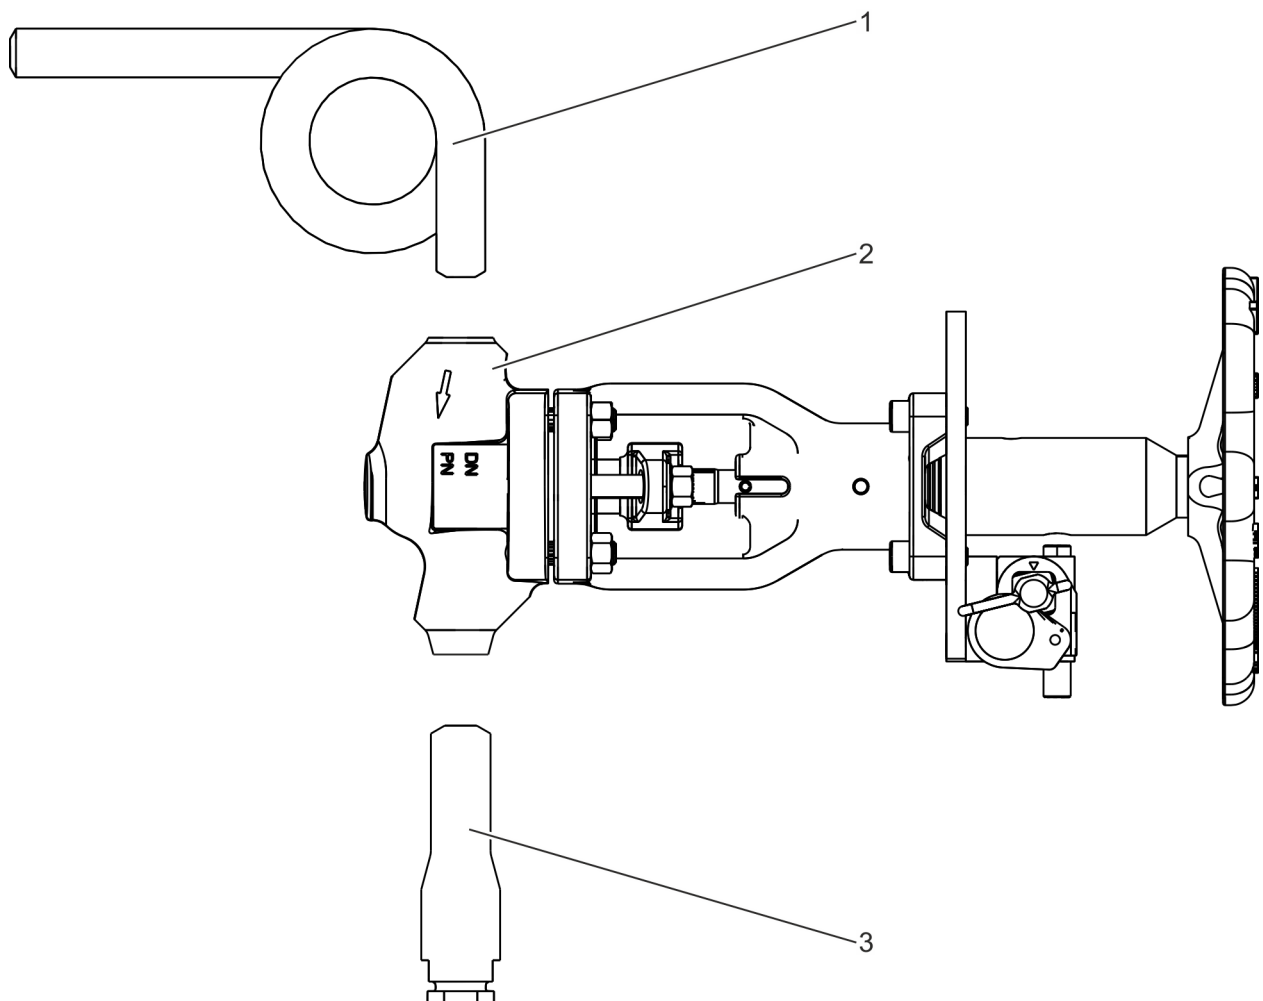

Fig. 1: Components of the over pressure safety device
- Siphon (Fig. 1/1),
- Shut-off valve (HD 2000 shown here as an example) (Fig. 1/2) and
- Valve body (Fig. 1/3).